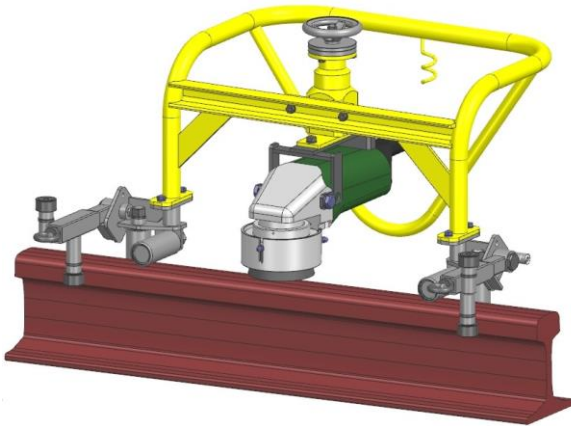

Fig. 3: Grinding the rail surface
| 6. Grinding of flange rails (Figs. 3 to 6) | 6 |
- with double rollers and idler rollers for flange rails (Figs. 3 and 4)
6. Grinding of flange rails (Figs. 3 to 6)